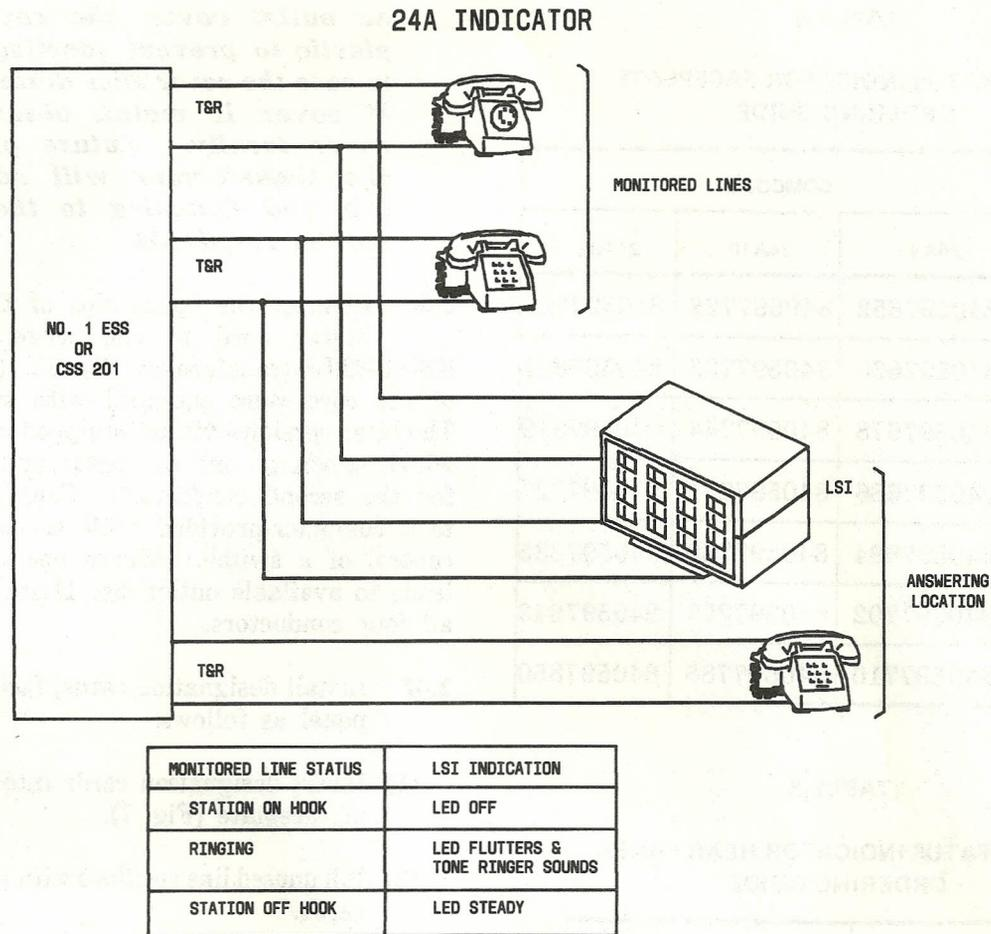

Fig. 4—Block Diagram of LSI Operation
2.06 A typical application is shown in Fig. 4.